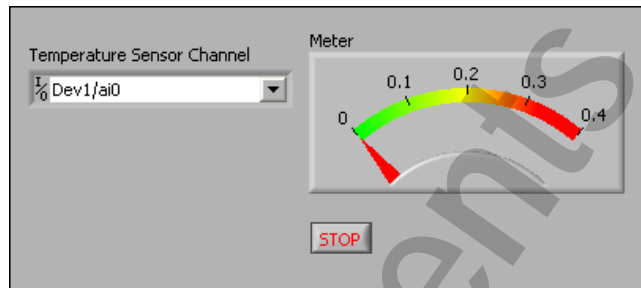

Figure 3-6. Voltmeter VI Front Panel
- ☐ Arrange the front panel as shown in Figure 3-6.